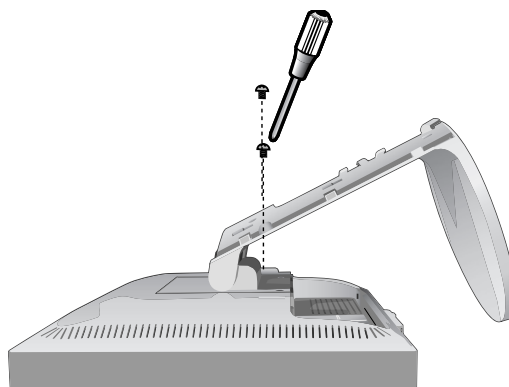

Figure M.3
3. Place monitor face down on a non-abrasive surface (**Figure M.3**).
4. Remove the 2 screws connecting the stand to the monitor (**Figure M.3**).